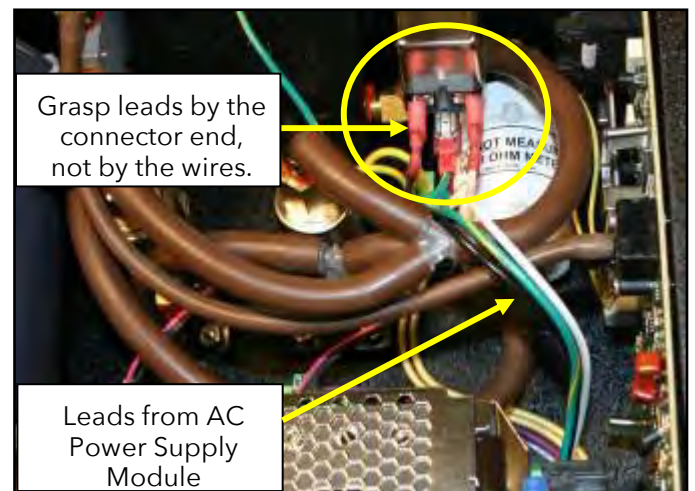

Figure 6. POWER FILTER MODULE TERMINALS.
- Using a needle nose pliers, carefully disconnect the three leads (white, black, and green/yellow) running from the AC power supply module to the back of the power filter module. Refer to Figure 6.